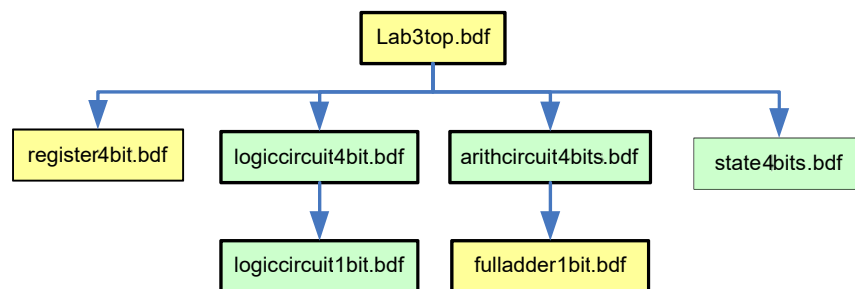

Figure 3: Hierarchy of the files
Since both the input and the output signals of ALU have 4 bits, the most effective way to implement ALU is to devise it in a hierarchical manner. Files on the lowest level are 1-bit full adder and 1-bit logic and shift circuit (LSC). The intermediate files will consist of a 4-bit register, a 4-bit arithmetic circuit (AC), a 4-bit logic and shift circuit (LSC), and a state circuit. Finally, the file at the highest level will cover the complete circuit, loadable to the UP2 board. The relation between these files is shown in figure 3. The parts in yellow will be explained further in this document. For the preparation of this lab, you are required to design and test the circuits coloured in green, i.e., the 1-bit LSC, the 4-bit LSC, the 4-bit AC, and the state circuit.